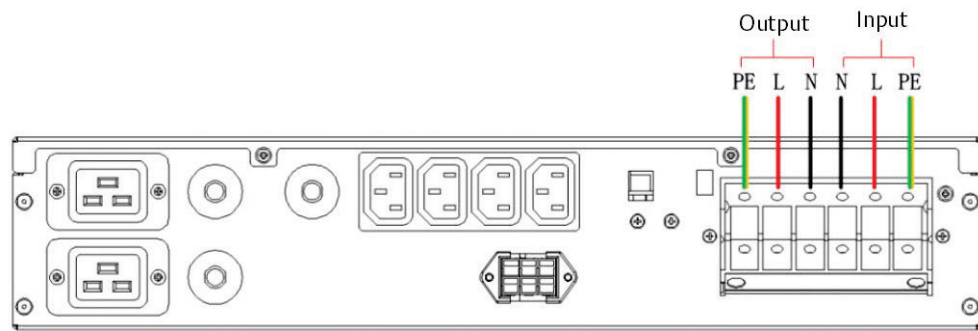

Figure 3-11 I/O cable connection of the 1 + 1 parallel POD
For 1 + 1 parallel POD, connect the mains input cables (L, N, PE) to the corresponding terminals on the I/O terminal block of the POD respectively, as shown in Figure 3-11.
1. Connect the output cables (L, N, PE) to the corresponding terminals on the I/O terminal block of the POD respectively, as shown in Figure 3-11.
The I/O cable connection of the 1 + 1 parallel POD is shown in Figure 3-11.